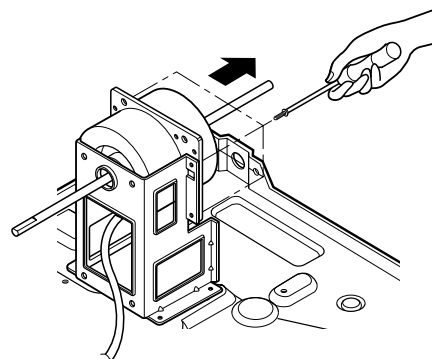

Figure 25
5. Remove the 4 screws which fasten the motor. (See Fig. 25)